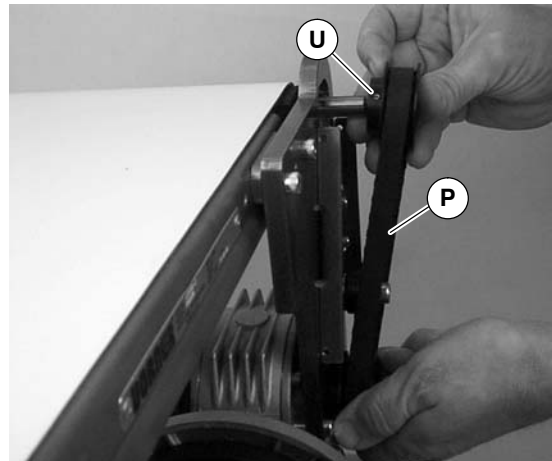

Figure 18
3. Remove timing belt (P of Figure 18).
NOTE: If timing belt does not slide over pulley flange, loosen driven pulley set screws (U of Figure 18) and remove pulley with belt (P). For re-installation, see steps 7 and 8 on page 9.